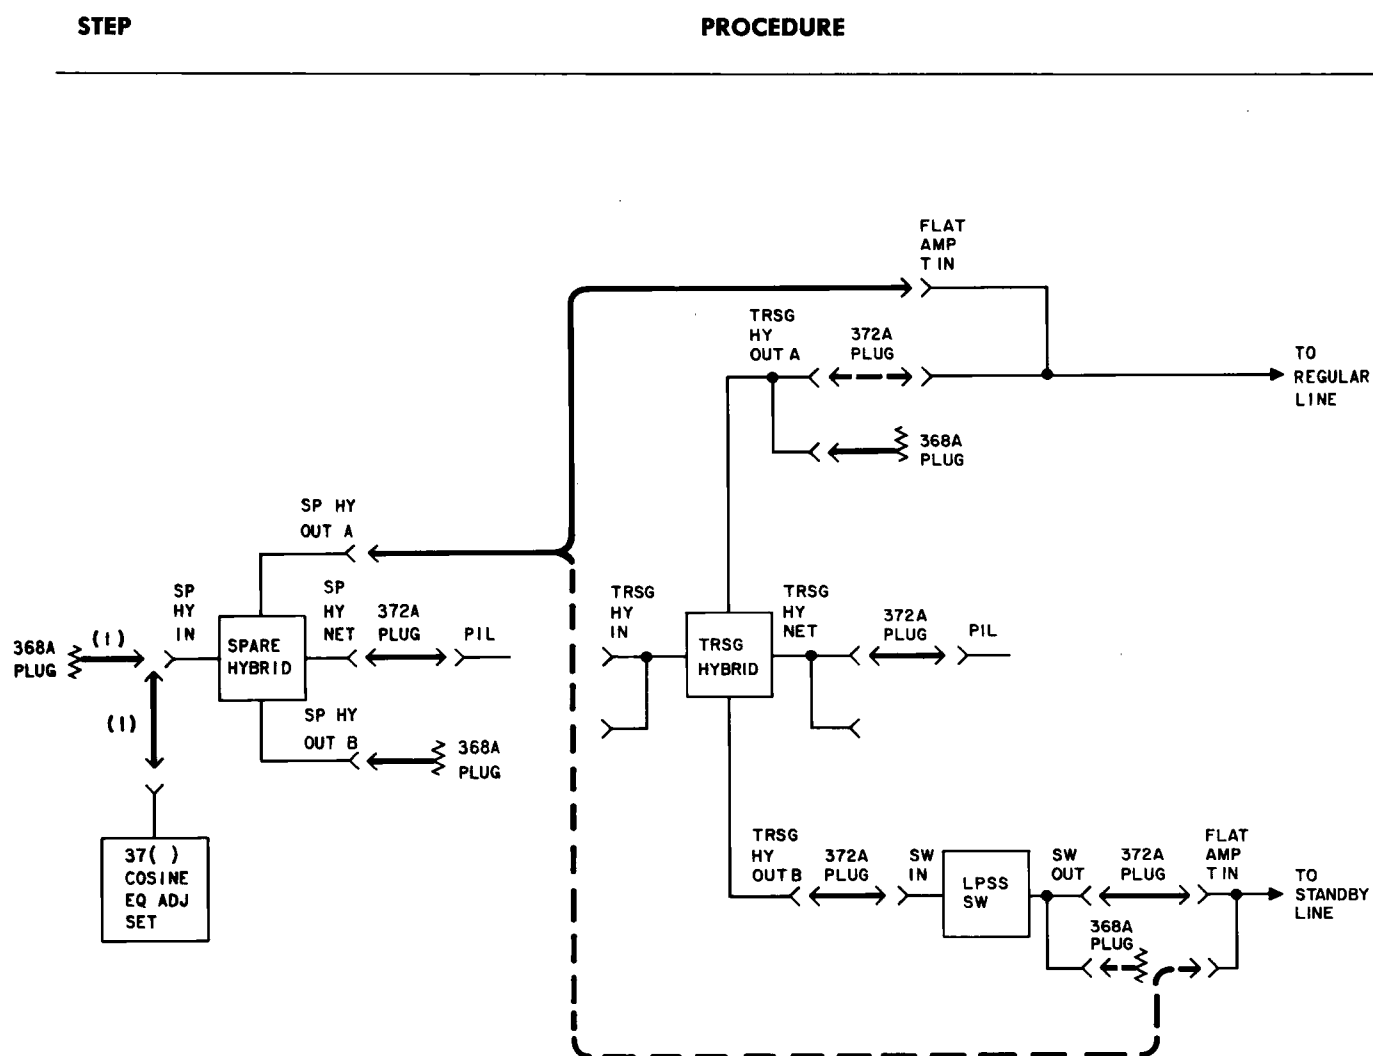

Fig. 5—Test Connections at Transmitting Terminal Sending Equalizing Signals to Equalizing Auxiliary or Main Repeaters
17	Remove the 368A plug and connect the 37() cosine equalizer adjustment set to the SP HYB IN jack [patch (1), Fig. 5]. At Equalizing Auxiliary Repeater:
- 24 Disconnect the 37() cosine equalizer adjustment set and terminate the SP HY IN jack with a 368A (75-ohm) terminating plug [patch (1), Fig. 5].
- 17 Remove the 368A plug and connect the 37() cosine equalizer adjustment set to the SP HY IN jack [patch (1), Fig. 5].
24	Disconnect the 37() cosine equalizer adjustment set and terminate the SP HY IN jack with a 368A (75-ohm) terminating plug [patch (1), Fig. 5].